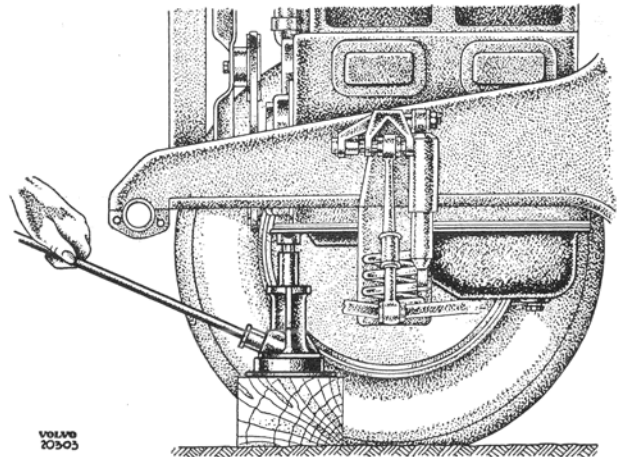

Fig. 23. Jacking up the front end of the engine.
5. Lift up the engine with a jack located under the forward end of the engine (Fig. 23).